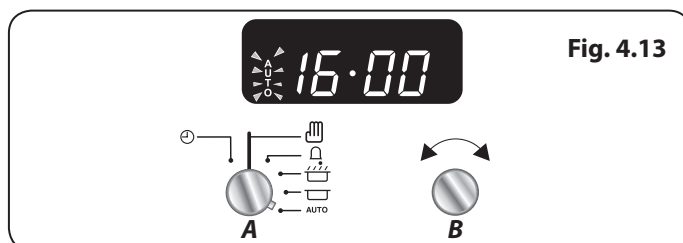

Fig. 4.13
6. When the program starts the oven, the cooking symbol will appear on the display. Once the specified time has elapsed it will emit an alarm and the Multifunction Oven will stop working. The 'Cooking' symbol on the display will disappear and the word 'AUTO' will flash (**Fig. 4.13**).